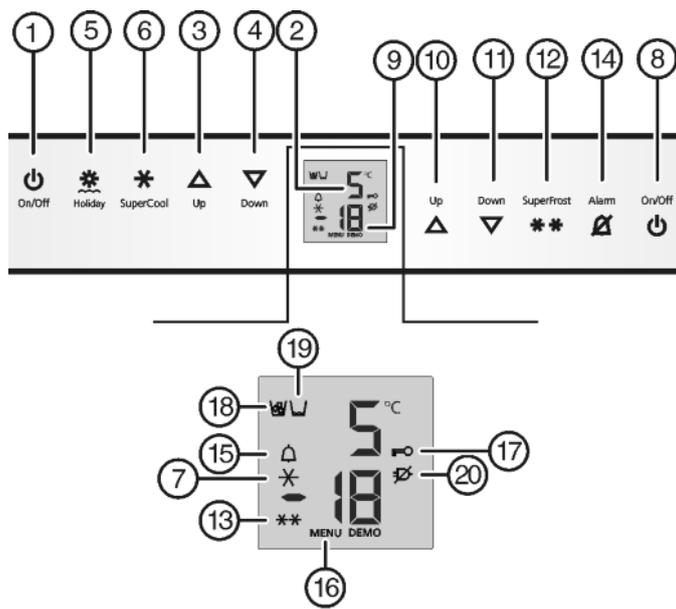

Fig. 2
- ▶ Press On/Off button, freezer compartment *Fig. 2 (8)*.
- ▶ Press On/Off button, refrigerator compartment *Fig. 2 (1)*.
- ▷ The fridge and BioFresh section are on: Fridge temperature display *Fig. 2 (2)* is on. When you open the door the interior light comes on.
- ▶ To activate the setting mode: press SuperFrost button *Fig. 2 (12)* for about 5 s.
- ▷ The menu symbol *Fig. 2 (16)* shines.
- ▶ Briefly press the SuperFrost button *Fig. 2 (12)* to confirm. When **c1** is indicated in the display:
- ▶ To activate the child lock, briefly press the SuperFrost button *Fig. 2 (12)*.
- ▷ The child lock symbol *Fig. 2 (17)* shines. **c** flashes in the display. When **c0** is indicated in the display:
- ▶ To deactivate the child lock, briefly press the SuperFrost button *Fig. 2 (12)*.
- ▷ The child lock symbol *Fig. 2 (17)* goes out. **c** flashes in the display.
- ▶ To deactivate the set-up mode: press On/Off button, freezer compartment *Fig. 2 (8)*.
- ▶ Press alarm button *Fig. 2 (14)*.
The temperature display and the alarm symbol *Fig. 2 (15)* flash at the same time.
The audible alarm is automatically silenced, the alarm symbol *Fig. 2 (15)* goes out and the temperature display stops flashing when the temperature is sufficiently cold again.